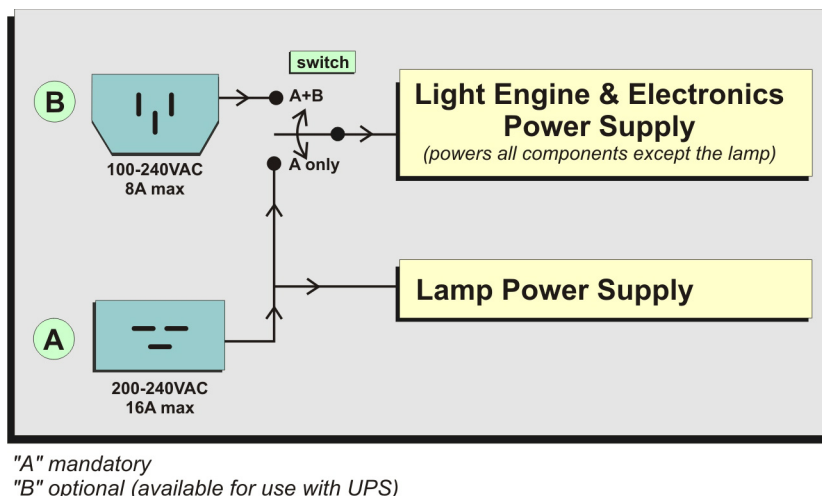

Figure 2-10 Connecting to Power
1. Connect the projector power cord to the AC receptacle at the lower-left rear corner of the projector and to proper AC - the outlets must be near the equipment and easily accessible. Use only the line cord provided with the projector or a power cord of appropriate ratings that comply with regional standards. When the main inlet is used the AC switch must be set to the left (**Figure 2-10**).
2. An optional feature to power all electronics through a UPS is available using the secondary inlet (cord not provided). When the secondary inlet is used the AC switch must be set to the right (**Figure 2-10**). This feature enables users to power all electronics through a UPS, which minimizes downtime in the event of a brief power outage.